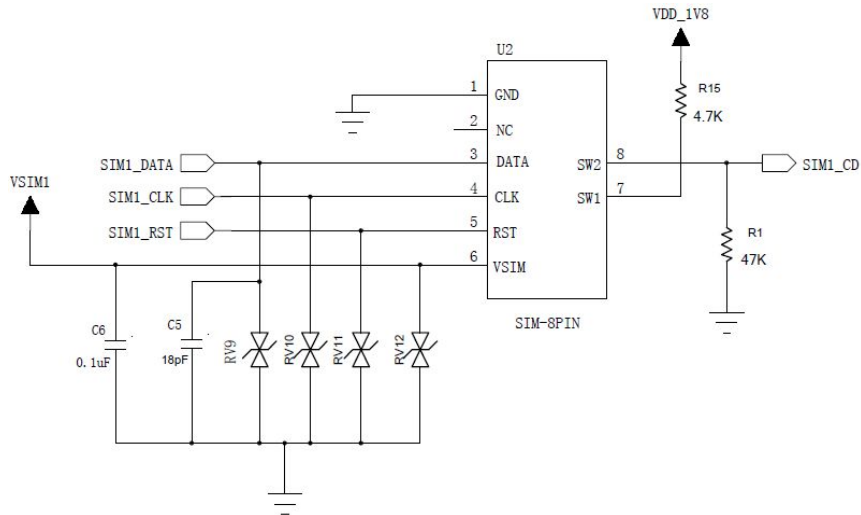

Figure 5-8 Reference Design of “Normally Open” SIM Card Interface
- For “Normally open” design, as shown in the figure5-8, the SIM1_CD signal is connected to U2’s Pin8 (SW2), and Pin7 (SW1) is pulled up with a 4.7K resistor. When the SIM card is not inserted, SW2 and SW1 are opened, and SW2 is low. When the SIM card is inserted, SW2 and SW1 are shorted, and SIM1_CD signal will be pulled high.